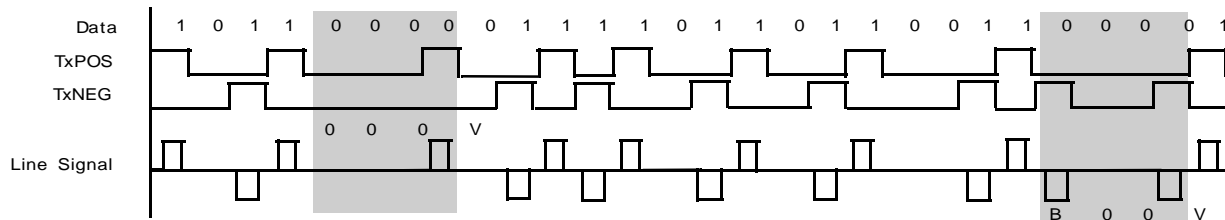

Figure 48. Illustration of two examples of HDB3 Encoding
The Transmit E3 Framer and the associated LIU IC combine the E3 frame data and timing information (originating from the TxLineClk signal) into the E3 line signal that is transmitted to the “Far- End” Terminal. The LIU at the “Far- End” Terminal has the task of recovering this data and timing information from the incoming pulses on the E3 line. Most E3 LIU devices, on the market today, contain clock and data recovery schemes that rely on the use of Phase- Locked- Loop (PLL) circuitry. The PLL circuitry, within the LIU, assists in the clock and data recovery process by “locking” onto the transitions in the E3 line signal. Therefore, these clock recovery schemes are vulnerable to the occurrence of a long stream of consecutive zeros (e.g., the absence of transitions in the line). Hence, some approach is needed to insure that such a long string of consecutive zeros can never happen. One such technique that is used in the E3 transport medium is HDB3 encoding. In general, the HDB3 line code is very similar to the AM line code: with the exception of the case when a long string of consecutive zeros occurs on the line. In HDB3 line coding, any string of 4 consecutive zeros will be replaced with either a “000V” or a “B00V” where “B” refers to a Bipolar pulse (e.g., a pulse with a polarity that is compliant with the AM coding rule). And “V” refers to a Bipolar Violation pulse (e.g., a pulse with a polarity that violates the alternating polarity scheme of AM). The decision between inserting an “000V” or a “B00V” is made to insure that an odd number of Bipolar (B) pulses exist between any two Bipolar Violation (V) pulses. When the UNI is configured to transmit E3 frame data in the HDB3 line code, the Transmit E3 Framer will take the E3 frame data and output it (onto the line) in the HDB3 format via the TxPOS and TxNEG output pins. Figure 48 presents an illustration of the Transmit E3 Framer taking E3 frame data (in a binary data stream format) and converting it into the HDB3 encoded format. The “HDB3- encoded” dual- rail data is then output to the LIU via the TxPOS and TxNEG output pins. Figure 48 also illustrates the resulting signal on the E3 line.
Note: Figure 48 shows two examples of “zero-suppression” due to the HDB3 line code. In the first example, a string of 4 consecutive zeros is replaced by a “000V” pattern. In the second example, a string of 4 consecutive zeros is replaced by a “B00V” pattern.